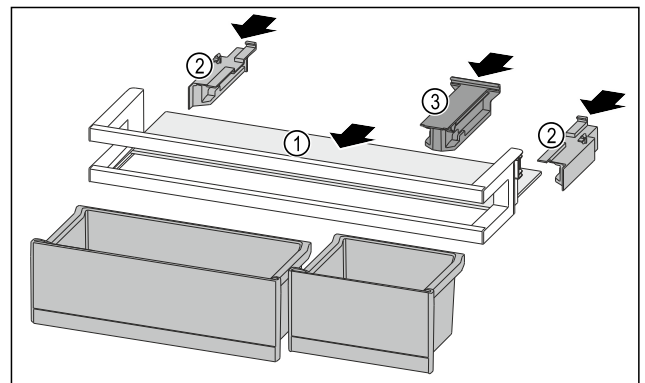

Fig. 136
- ▶ Push the shelf Fig. 136 (1) into the side cutouts.
- ▶ Insert the side parts Fig. 136 (2).
- ▶ Insert the retaining part Fig. 136 (3).